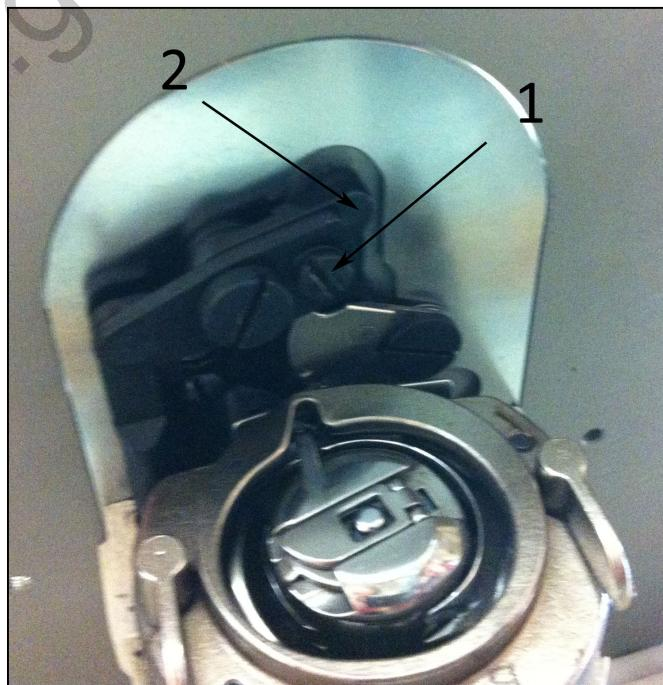

Fig. 27
Loosen screw (1) and move the lever (2) until the tip of the movable knife is approximately 1mm from the needle plate hole (fig. 27)